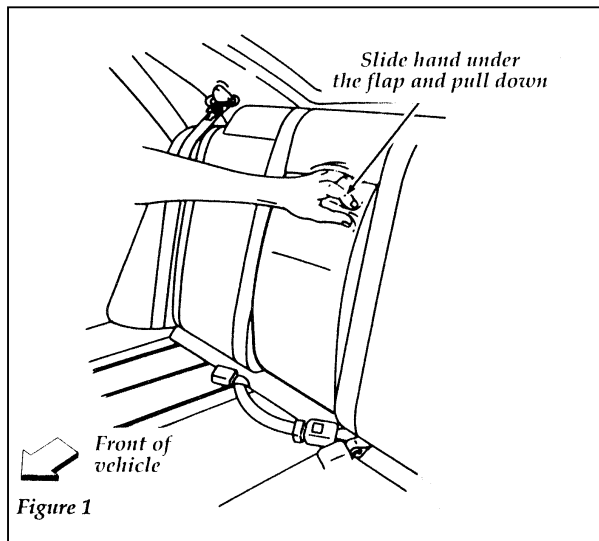

Figure 3: Unfolding built-in child seat
1. Slide hand under the flap and pull down the top portion of the child seat. See Figure 3.